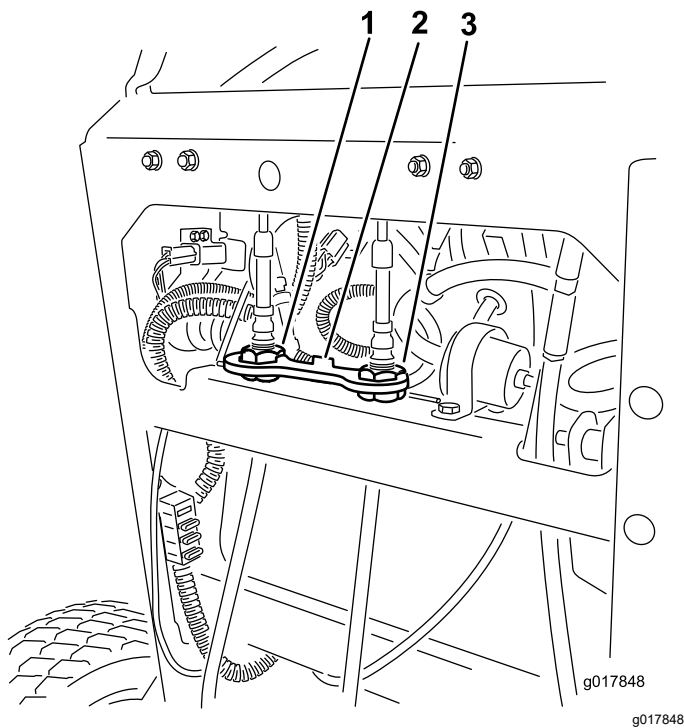

Figure 54
4. Rotate the right cable adjustment to position the right motion-control lever in the center of the control-panel neutral-lock slot (Figure 54).